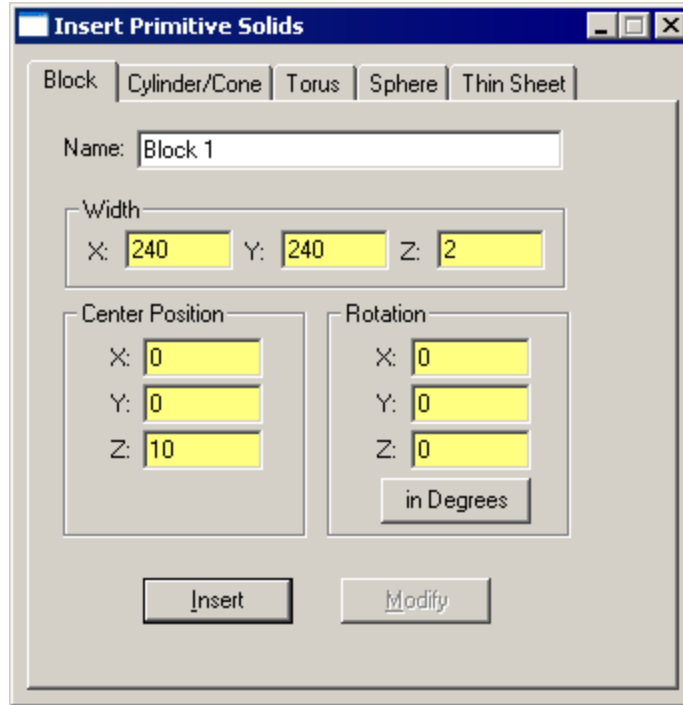

FIGURE 9.9 - Insert a block into a TracePro model as a substrate for the Fresnel lens.
7. In TracePro, using the **Insert|Primitive Solid** dialog box, insert a block with dimensions as shown in Figure 9.9.